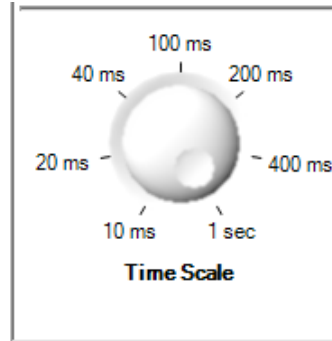

Figure 35 Time Scale Knob
**Time Scale Knob.** The time scale knob (Figure 35) allows you to change the X-axis of all the graphs the same as you would with an oscilloscope. The unit takes 5000 samples from all three channels and sends them to the PC. If the Time Continuous Measurement Rate is 5 kHz set in Options (see Section 5.3.2), the total acquisition time is 1 second. If the knob is set to maximum (fully clockwise as shown in Figure 35), the graphs will display all 5000 samples. Rotating the knob counter-clockwise will set the graphs' maximum time to the knob setting.